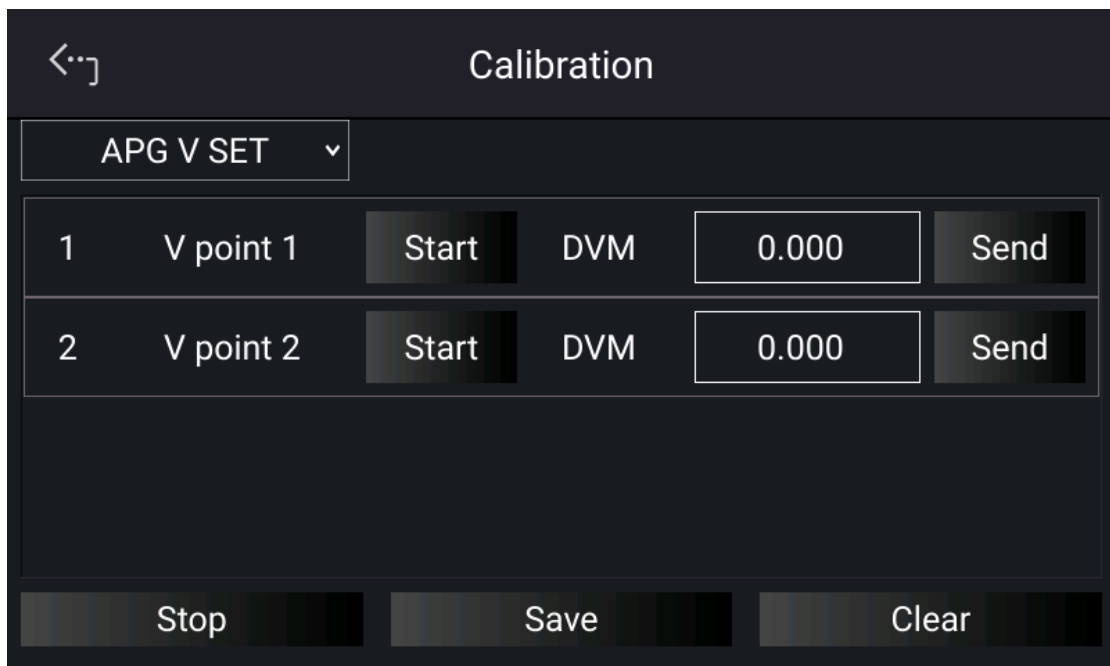

Figure 3-88
1. On the Calibration page, tap “Host V” to select APG V SET and list the APG voltage calibration items as shown in Figure 3-88.